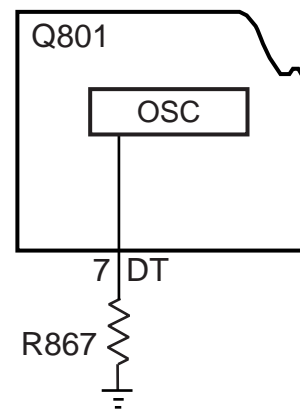

Figure 7
Refer to Figure 7. Q801's internal Oscillator develops the power supply's switching frequency by generating a ramp waveform internally. During normal operation, both MOSFETs are OFF for a short time when they are alternately switching. This OFF time is called dead time and determined by the value of resistor R867 on the dead time (DT) terminal pin 7.